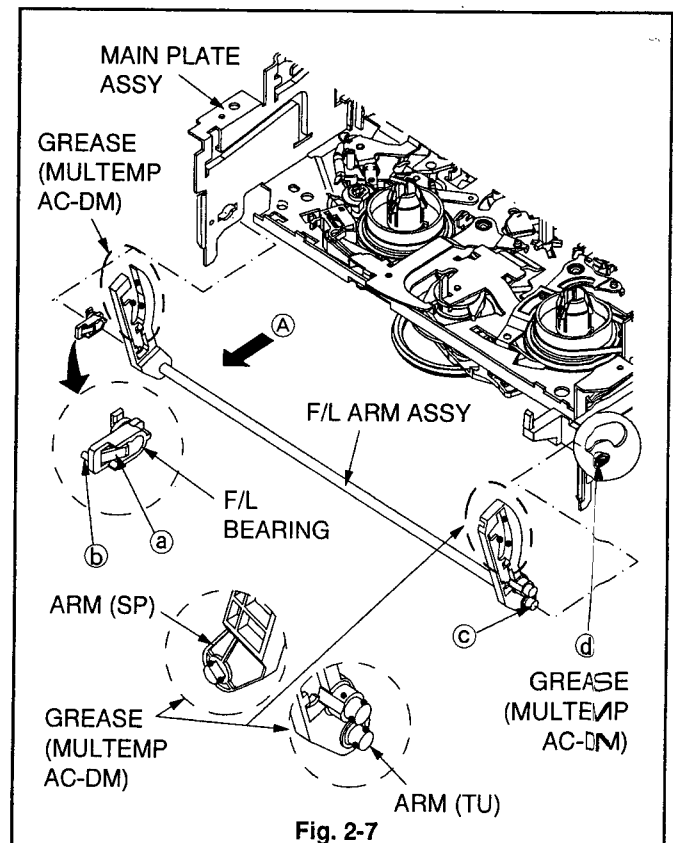

Fig. 2-7
1. Release the catch (a) of the F/L BEARING shown in the Fig. 2-7 and pull out the F/L ARM ASSY in the direction shown by the arrow A.
2. Release the catch (b) of the F/L BEARING shown in the Fig. 2-7 and rotate the F/L BEARING by 90 degrees to remove it.
1. Apply GREASE (MULTEMP AC-DM)[859D055O90] to the Groove of the MAIN PLATE ASSY shown in the Fig. 2-7.
2. Apply GREASE (MULTEMP AC-DM)[859D055O90] to the Boss and the Arm of the ARM (SP) shown in the Fig. 2-7.
3. Apply GREASE (MULTEMP AC-DM)[859D055O90] to the Bosses and the Arm of the ARM (TU) shown in the Fig. 2-7.
4. Install the F/L BEARING shown in the Fig. 2-7.
5. Insert the Boss (c) of the F/L ARM ASSY shown in the Fig. 2-7 into the Groove (d) of the MAIN PLATE ASSY to install the F/L ARM ASSY.